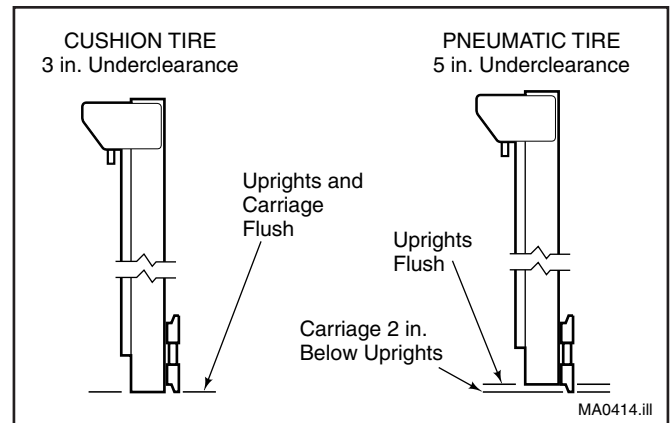

Figure 4. Upright and Carriage Position.
The main lift chains should be adjusted so that when the unloaded mast is fully lowered, the carriage is positioned as shown in Figure 4.
- 1 Adjust one chain to achieve the correct carriage position when fully lowered, see Figure 4 and 5.
The free lift chains should be adjusted so that when the unloaded mast is fully lowered, the carriage is positioned as shown in Figure 4.
- 2 Adjust one chain to achieve the correct upright and carriage position when lowered. See Figure 4 and 5.